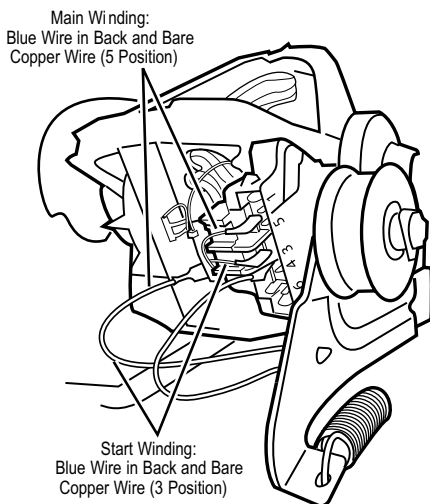

Figure 8. Main and start winding measure points.
- Using Figure 8, check for the resistance values of the motor's Main and Start winding coils as shown in the following table.